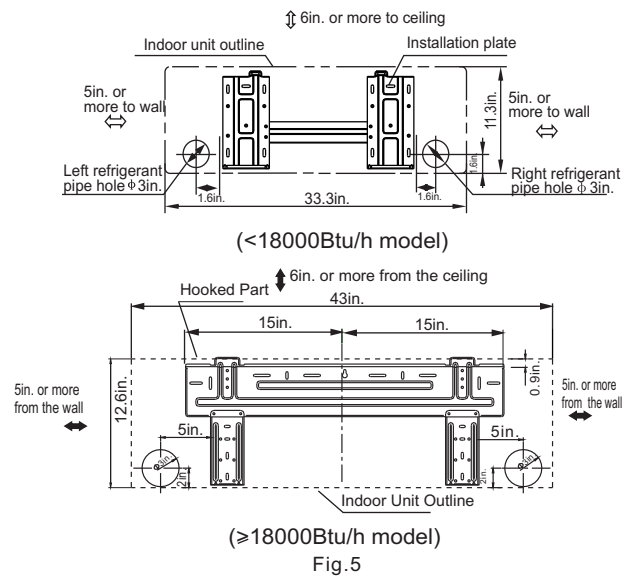

Fig.5
1. Determine hole positions according to the diagram detailed in Fig.5. Drill one (1) hole ($\phi 3\text{in.}$ (65mm)) slanting slightly to outdoor side.